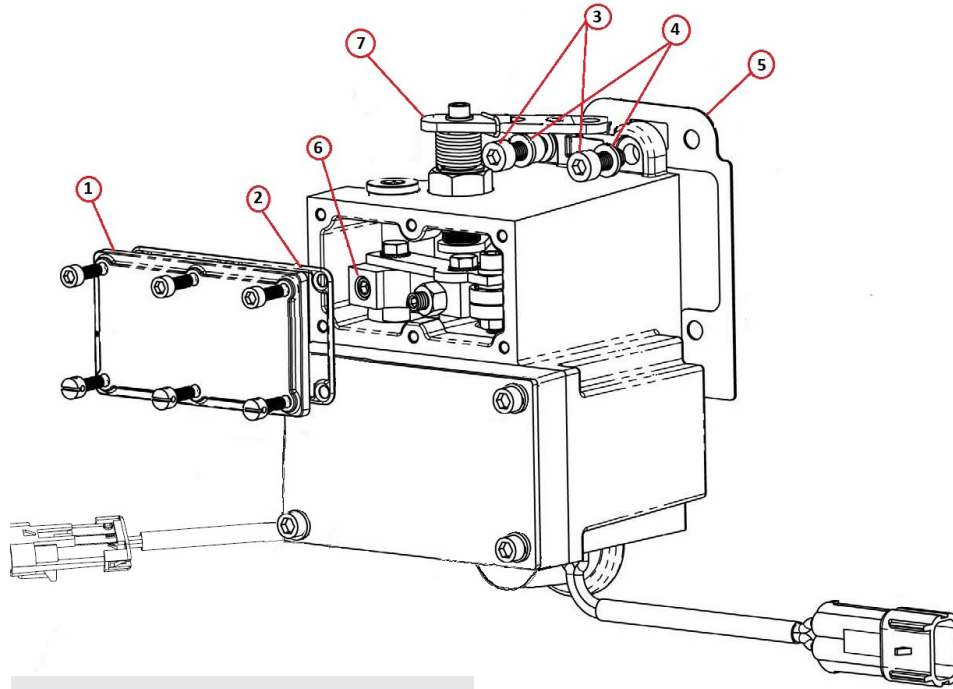

FIGURE 7 ACTUATOR MOUNTING
1. Remove the upper actuator cover, Figure 7 (1), and O-ring seal (2). Save all hardware.
3. Insert two M6 X 16 mm long screws and spring washers, Figure 7 (15), through the lower mounting holes inside the upper actuator cavity.
4. Align the gasket, Figure 7 (5), and install it over the two screws and carefully slip the actuator over the fuel rack assembly until the two lower screws just start to meet the fuel pump mounting holes.
5. Insert a ball end hex wrench through the access point located on the operating lever, Figure 7 (6), and tighten the left lower mounting screw (15) a few turns.
7. Once these two screws are fully engaged (do not tighten at this time) into the pump housing, insert two additional M6 X 16 mm long screws, Figure 7 (3), and spring washers (4) into the top two mounting holes of the actuator and thread into the pump housing.
10. Verify the fuel rack assembly moves in and out freely inside the upper cavity of the actuator by moving the fuel shutoff lever, Figure 7 (7).